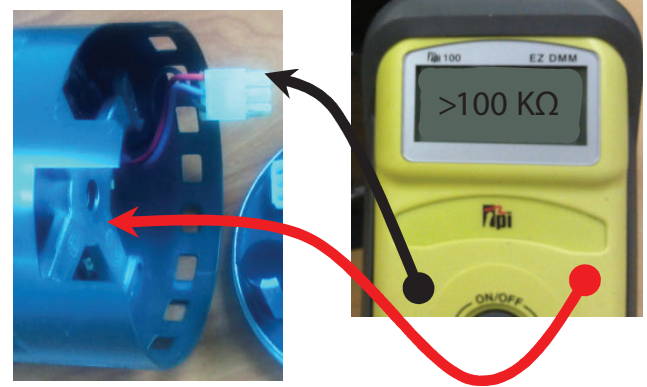

Fig. 9 — Resistance to Ground
- a. Measure the resistance of each lead to the unpainted motor plate (see Fig. 9).